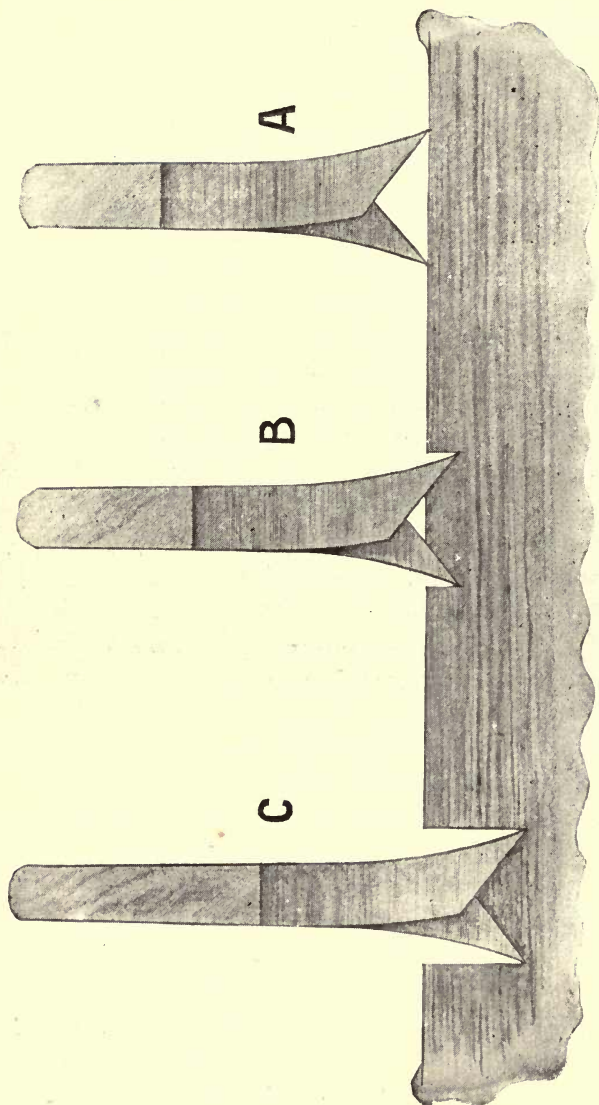

FIG. 196.—Enlarged View of Operation of Sawing.
**483. The Operation of Sawing.**—The operation of sawing consists, first, in cutting the wood or metal, and second, in widening the cut in order that the tool may penetrate the material and then allow the cutting edge to go on (Fig. 196). In widening the cut, the fibers must be pressed apart. The force that is required to carry the saw forward, when the cutting edge is just entering the wood or metal, is due to the resistance of the material; the larger the angle of the cutting edge, that is, the greater the difference in direction between the stock and the cutting tool, the more abrupt will be the turning of the shaving or the chip of the metal, and consequently the greater the resistance to sawing. Experienced mechanics know that the smaller the angle of the cutting tool that the metal or wood will allow without breaking the tool, the easier it is for the worker.